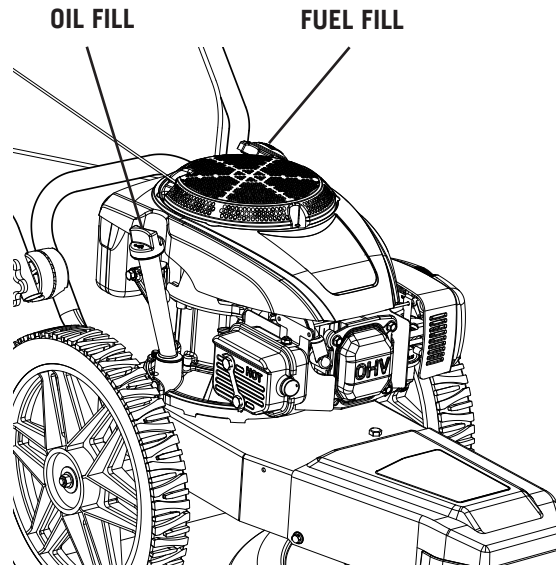

Figure 7
1. Place the string trimmer on a level surface and initially add  $\frac{1}{2}$  of the SAE 30 high detergent oil into the oil fill (see Figure 7) and wait one (1) minute for the oil to settle.